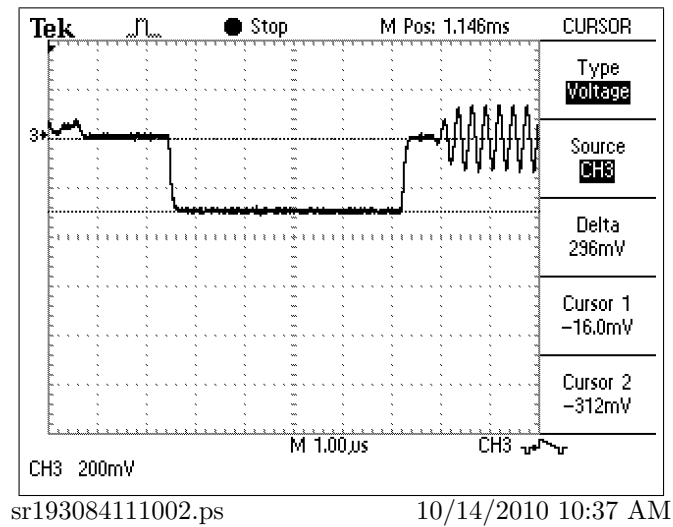

Figure 2: VK-S275R 0501-0102, HSYNC Voltage, Capture #1
- 9.2 Figure 2, page 3, shows the voltage levels of the HSYNC pulse